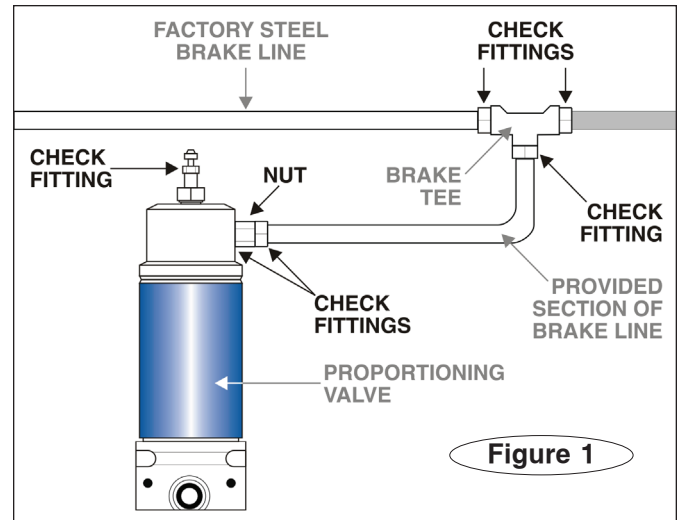

Figure 1
1. The port on the proportioning valve (Figure 1) can be rotated up to one full turn counterclockwise for easier connection to the brake line. Turn the nut on the port (Figure 1) with a wrench and rotate the blue cylinder, then tighten the nut to lock the blue cylinder.
3. After the installation, check all the brake line fittings in the motorhome for leaks. (Figure 1 identifies the six points to check near the proportioning valve.)